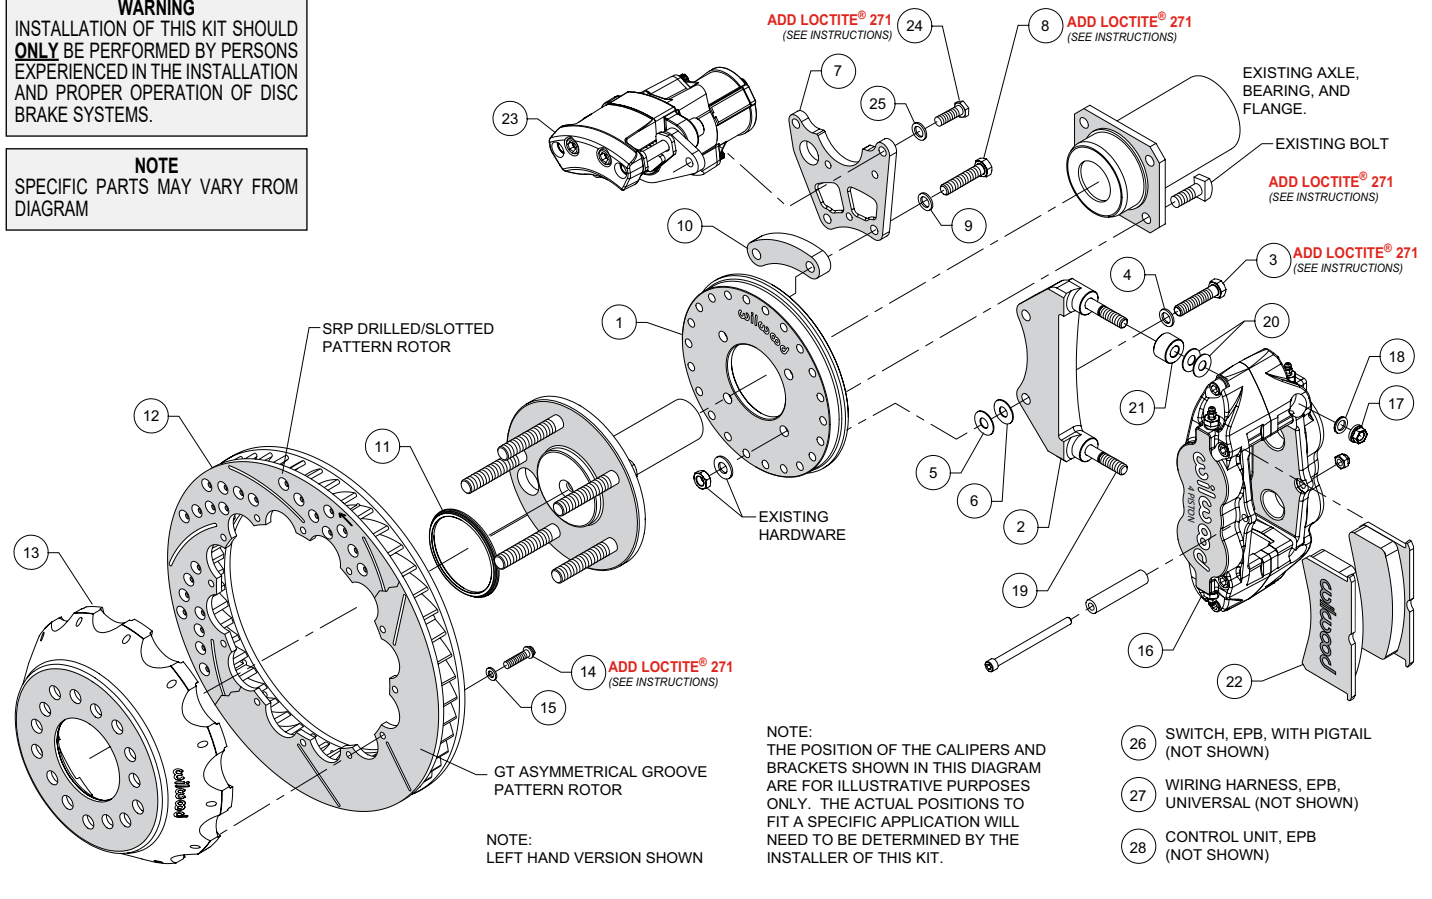
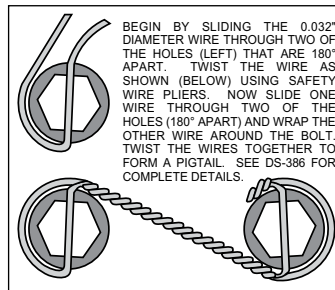

Figure 1. Typical Installation Configuration
Figure 4. Safety Wire Diagram
NOTE: Numbers in parenthesis refer to the parts list and Figure 1 on the preceding pages.
- Orient the backing plate (1) as shown in Figure 1 and Photo 1, and mount it to the axle housing flange using the Original Equipment Manufacturer (OEM) bolts and nuts, Figure 1. Ensure the backing plate fits flush against the axle housing flange. Apply red *Loctite*® 271 to the OEM bolt threads and torque to OEM specifications.
•Start by determining the best location for the service caliper (16). This caliper is usually mounted in the 3:00 or 9:00 o'clock position, but may be rotated up or down approximately 45 degrees and still allow for proper bleeding, Photo 2. Orient the service caliper bracket (2) as shown in Figure 1 and Photo 3, and install to the backing plate (1) in the desired location using bolts (3) and washers (4). Temporarily tighten bolts. Next, mount the service caliper onto the bracket. Mount the service caliper using lock nuts (17) and washers (18), Figure 1. Temporarily tighten the lock nuts. Check that the caliper (including inlet fitting and hose) has sufficient clearance to all surrounding components through the full suspension travel. Relocate the caliper/bracket on the backing plate as needed to ensure proper clearance is achieved.
•Determine the best location for the EPB caliper (23). **NOTE:** The EPB caliper motor extends farther inboard than the service caliper and therefore needs additional consideration when determining a mounting location with sufficient clearance. In the example application shown in Photo 4, the EPB caliper has sufficient inboard clearance to the leaf spring. However, if the EPB caliper were mounted closer to the 12:00 o'clock position, the inner body of the vehicle would hit the caliper during full compression of the suspension.
•Orient the EPB caliper bracket (7) as shown in Figure 1 and Photo 5, and install to the backing plate (1) in the desired location using bolts (8), washers (9), and spacer (10). Temporarily tighten bolts. **NOTE:** The EPB bracket is reversible. In one direction the bracket will position the EPB caliper closer to the service caliper, and vice versa if reversing the bracket. Next, mount the EPB caliper (23) to the bracket using bolts (24) and washers (25). Temporarily tighten bolts. **NOTE:** EPB calipers are Left and Right handed, however they can be used on either side of the vehicle to best suit your specific application. Check that the EPB caliper (including wiring harness connector) has sufficient clearance to all surrounding components through the full suspension travel. Relocate the EPB caliper/bracket on the backing plate as needed to ensure proper clearance is achieved.
- Once the caliper positions have been determined, remove both the service (16) and EPB (23) calipers, leaving both brackets in place on the backing plate. For the EPB bracket, remove the bolts one at a time, apply red Loctite® 271 to the threads, and torque to 35 ft-lb. The service caliper bracket will be final installed after shimming is determined.
- Orient the rotor (12) and the hat (13) as shown in Figure 1 and Photo 6. Attach rotor to hat using bolts (14) and washers (15). Apply red Loctite® 271 to the bolt threads and torque to 155 in-lb using a criss-cross pattern. For an added measure of security, the bolts may be safety wired using standard 0.032 inch diameter stainless steel safety wire as shown in Figure 4. Please refer to Wilwood's data sheet DS-386 (available at www.wilwood.com/Pdf/DataSheets/ds386.pdf) for complete safety wire installation instructions.
- Slide the rotor registration adapter (11) onto the register on the axle flange with the smaller O.D. facing toward the rotor/hat (12 and 13), Photo 7.
- Initially place two .035" thick shims (20) and one spacer (21) on each stud of the service caliper bracket (2) as shown in Figure 1 and Photo 8. Mount the caliper onto the bracket using lock nuts (17) and washers (18), Figure 1. Temporarily tighten the lock nuts and view the rotor through the top opening of the caliper. The rotor should be centered in the caliper, Photo 9. If not, adjust by adding or subtracting shims (5 and/or 6) between the service caliper bracket (2) and the backing plate (1). Always use the same amount of shims on each of the two mounting bolts. Once the caliper alignment is correct, remove the bracket mounting bolts (3) one at a time, apply red Loctite® 271 to the threads, and torque bolts to 35 ft-lb.
- Remove the caliper center bridge pad retainer bolt, nut, and tube from the caliper. Insert the brake pads (22) into the caliper, with the friction material facing the rotor, as shown in Photo 10. Check that the top of the brake pad is flush with the outside diameter of the rotor, Photo 11. If not, adjust by adding or subtracting shims (20) between the caliper (16) and the service caliper bracket (2). After the caliper pad height is set, torque the caliper lock nuts (17) to 30 ft-lb. Secure the brake pads in place with the center bridge pad retainer tube, bolt, and locknut, Photo 12. The locknut should be snug without play in the bolt or tube. Be cautious not to over tighten.
- Mount the EPB caliper (23) onto the caliper mounting bracket (7) using bolts (24) and washers (25), Figure 1. Apply red *Loctite*® 271 to bolt threads, and torque to 30 ft-lb.
- NOTE:** *The service caliper (16) in this brake kit utilizes a 1/8-27 NPT pipe thread inlet. OEM rubber brake hoses generally cannot be adapted to Wilwood calipers. The preferred method is to use steel adapter fittings at the caliper, either straight, 45 or 90 degree (use PTFE tape on pipe threads of adapter fitting for proper sealing to caliper) and enough steel braided line to allow for full suspension travel. Carefully route hoses to prevent contact with moving suspension, brake or wheel components. NOTE: Wilwood hose kits are designed for use in many different vehicle applications and it is the installer's responsibility to properly route and ensure adequate clearance and retention for brake hose components. Wilwood offers universal brake flex line hose kits, domestic (3/8-24 IF) chassis fittings, order:*